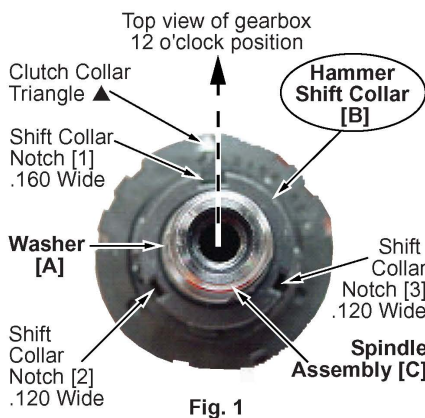
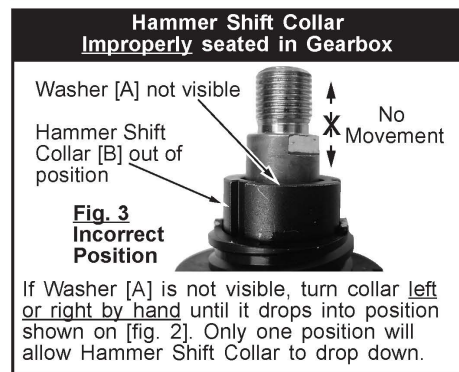

Fig. 1
Fig. 3 Incorrect Position
- Hammer Shift Collar [B] notch [1] with the .160 wide notch in-line or slightly left of gearbox 12 o'clock position (fig. 1).
☞ If hammer Shift Collar [B] is out of position, it will look like example shown in (fig. 3).
- Align two piece clutch assembly [A,B], as shown in fig. 1.
- Hold gearbox assembly, fig. 3 in one hand with the 12 o'clock position facing up.
- Install clutch ring assembly, figs. 1,2 over gearbox assembly, fig. 3 in direction of arrows.
- Failure to hold clutch ring symbols together, as shown in figs. 1,2, when installing clutch ring assembly, will result in a misalignment of the internal clutch ring post, shown / illustrated in step 5.